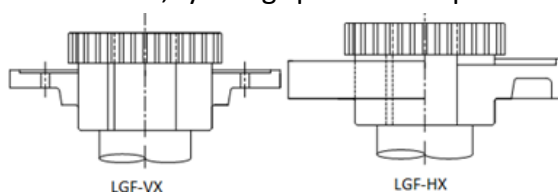
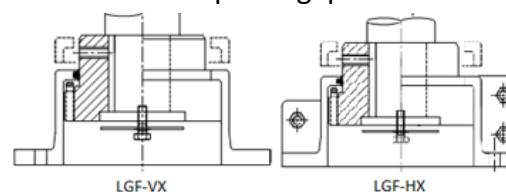

Fig. 4.1
Fig. 4.2
- Mount the hubs on their respective shafts. Bottom hub shall be flushed with driven shaft (Fig.4.1). Position the top shaft with the spacer plate & tighten bolt (Fig. 4.2). Check covers are placed correctly on shafts.